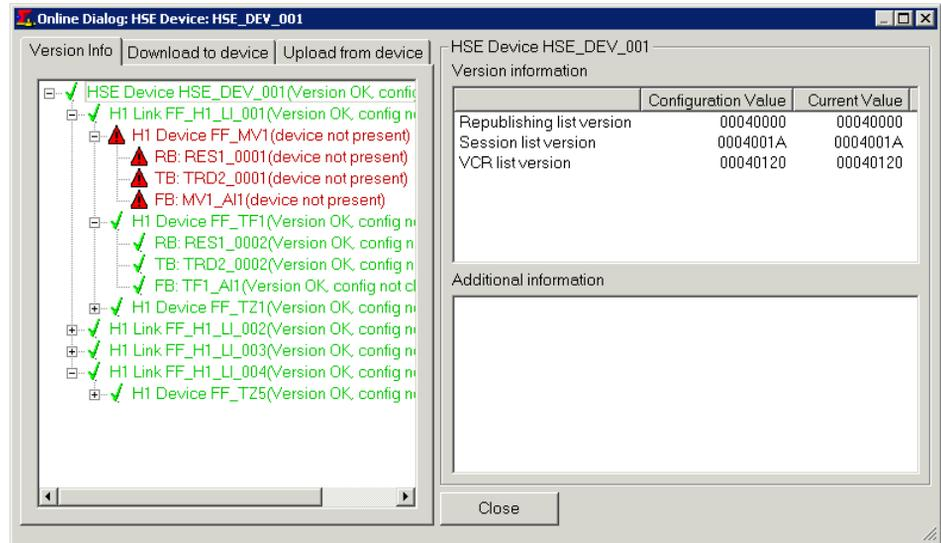

Figure 184. Online Dialog
15. Open the Online dialog with **Object > Online Dialog...** (refer to Figure 184).